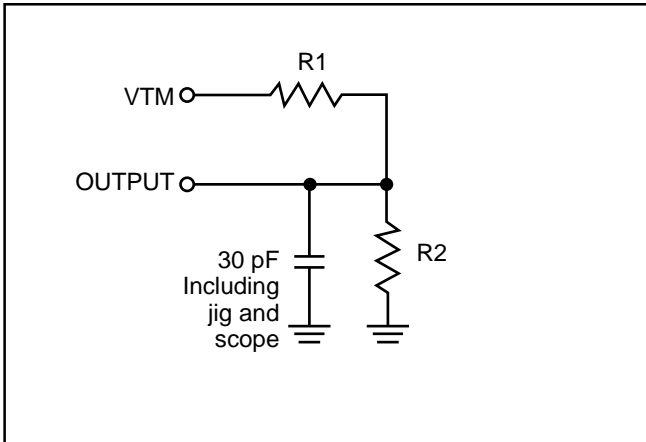

Figure 1
Output Load	See Figures 1 and 2 (1)
Note 1. All AC test to output Load Figure 1, except High-Z use output load Figure 2.